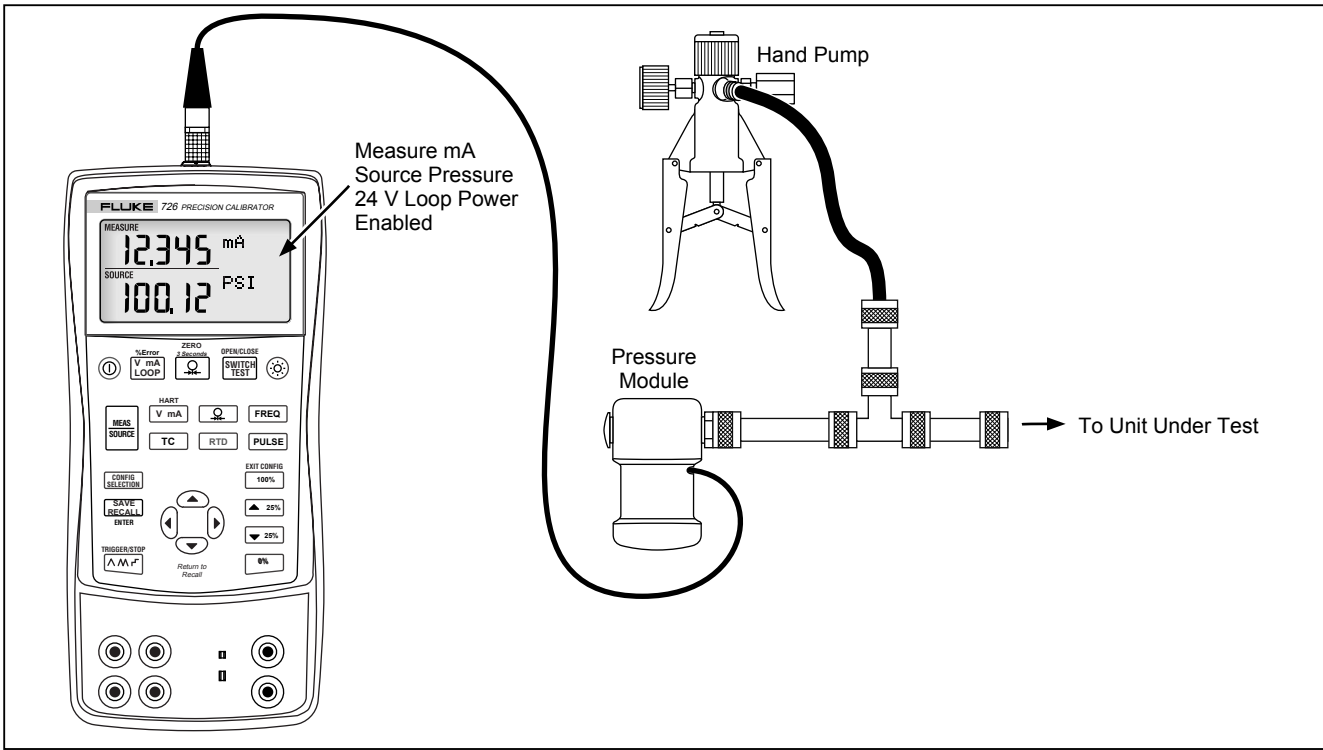

Figure 18. Connections for Sourcing Pressure
The Calibrator sources pressure by measuring pressure supplied by a pump or other sources, and displaying the pressure in the SOURCE field. Figure 18 shows how to connect a pump to a Fluke pressure module which makes it a calibrated source.
1. Connect a pressure module to the Calibrator as shown in Figure 18. The threads on the pressure modules accept standard ¼ NPT pipe fittings. Use the supplied ¼ NPT to ¼ ISO adapter if necessary.